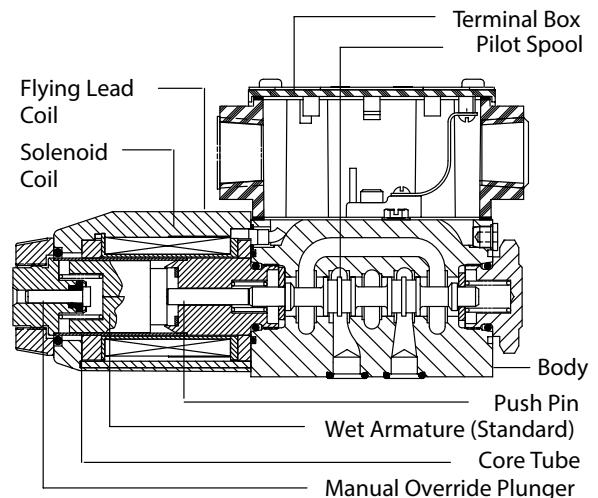

Figure 13a. Typical DG4V-3(S)-A/B-FW-60
C. Air Gap Solenoids: DG4S4-01 pilot valves are usually equipped with air gap solenoids. Air gap solenoids are isolated from system fluid and can be removed and replaced without disturbing the system. A push pin and sliding seal couple the solenoid to the valve spool (see Figures 13a and 13b).
F. Electrical Solenoid Ground Connections and Wiring Housing: An electrical wiring housing with a $\frac{1}{2}$ " NPTF thread connection is available on DG4V-3 and DG4S4-01 pilot valves. the wiring housing can be rotated 180° from the position shown in Figure 13a. Wire grounding screws are provided for convenience.
G. Manual Override: each solenoid (electrical or air type) has a manual override plunger to shift the pilot spool. This feature allows a technician to shift the pilot spool when electricity or air pressure is not available. Refer to Figures 13a or 13b. To operate the manual override feature, obtain a small rod and push in on the plunger.